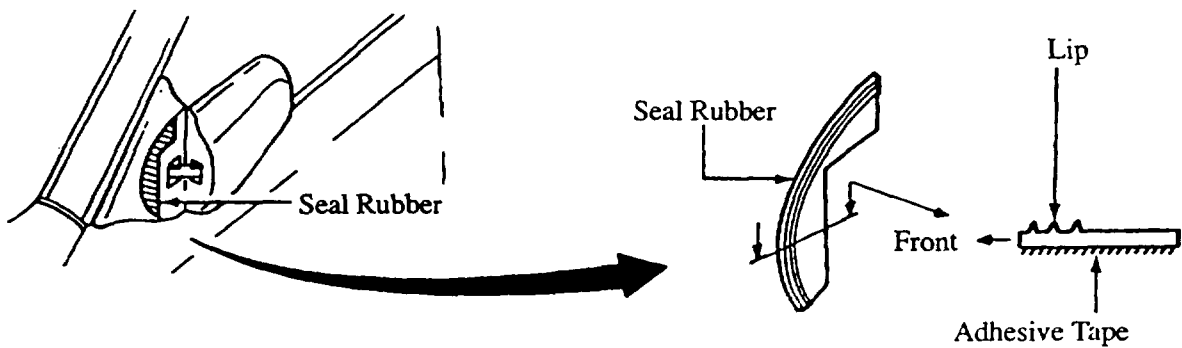

Figure 3: Door Mirror
7. Add respective (right and left) seal rubber to the mirror base. **Figure 3.**